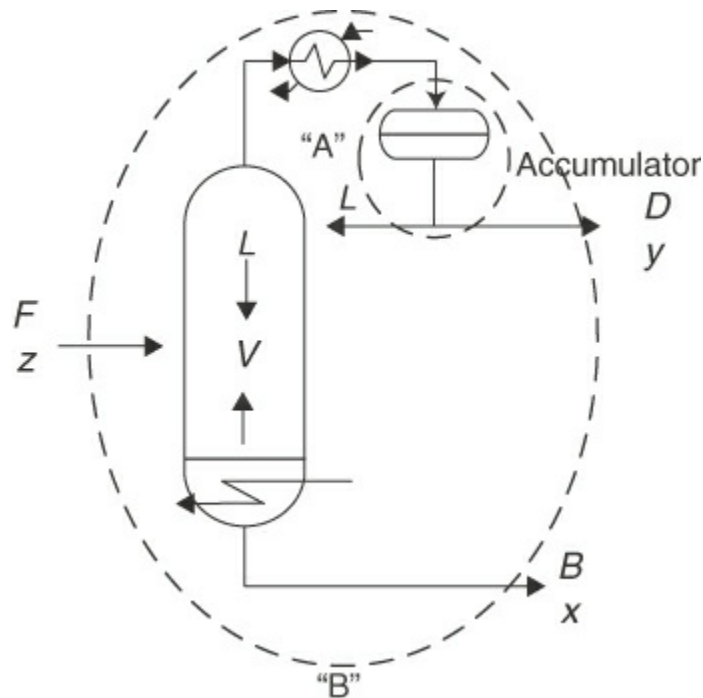
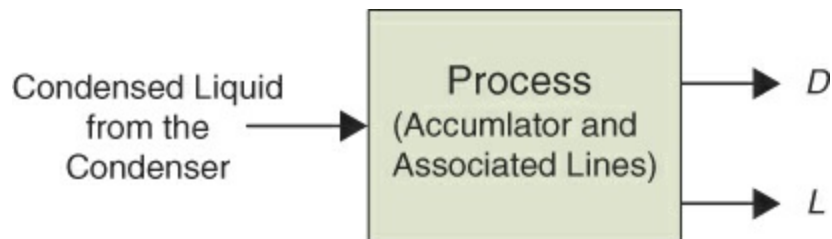

Figure 3.4 Boundaries applied to the schematic of a distillation column
Figure 3.5 The system for boundary A
We can draw a **system boundary** around any part or the whole of this schematic. For example, by drawing a boundary around the accumulator and the exit lines (boundary A in Figure 3.4), the result is shown in Figure 3.5, and it indicates that what enters the identified system equals what leaves that system. That is, the condensed liquid that enters the accumulator is equal to the sum of the distillate rate (D) and the reflux (L) that leaves the system.
On the other hand, if we draw a boundary around the entire column (boundary B) and consider only the material balance aspects of the system, the result is represented by the schematic shown in Figure 3.6. Note that neither the steam nor the refrigerant comes into contact with the components in the feed stream that are being separated by the column. That is, steam condenses in the reboiler, transferring heat to the material in the bottom of the column, and the refrigerant absorbs heat from the overhead vapors, but neither mixes with the material inside the column. From Figure 3.6, all of the details of the internal operation of the distillation column (i.e., the generation of vapor by the reboiler, condensation of the overhead vapor by the condenser, and the vapor/liquid contacting on each tray in the column) are neglected, and only the overall material balance behavior of the process is considered. Many times, this overall material balance behavior (i.e., a macroscopic model) is all that is needed to represent a process. Therefore, you can analyze the entire process or any portion of the process by simply applying the proper system boundary. This chapter focuses on applying material balances using schematics similar to Figures 3.5 and 3.6; that is, emphasis is placed on the overall behavior of the process and not the internal details.
Macroscopic balances: Macroscopic balances are concerned with only the overall behavior of the process under consideration and not the details of the internal operation of the system. For example, a macroscopic balance on a distillation column is concerned about the overall separation of the light and heavy components (i.e., the compositions of the streams leaving the column) and not the distribution of component concentrations inside the column (e.g., system B in Figure 3.4 and Figure 3.6).